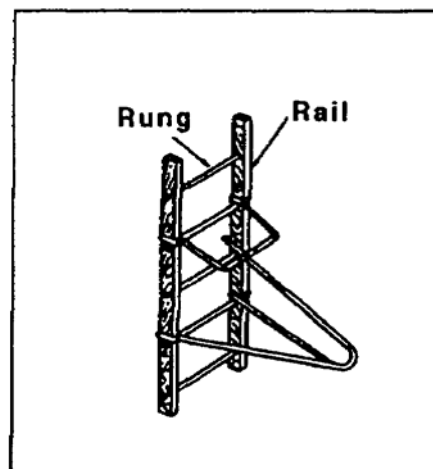
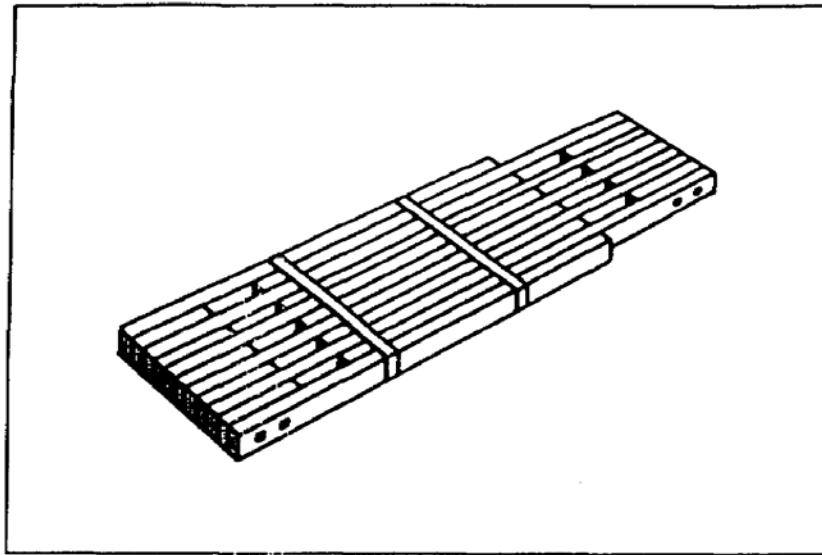

Figure 4-8. Steel ladder jack
Figure 4-9. Extension planking
(5) Using extension planking and ladder jacks. Two ladders may be adapted to hold a scaffold board or extension planking by using one steel ladder jack (Figure 4-8) for each ladder. Mount the jack on the front or back side of the ladder. By placing the ladder jacks between the ladder and the building being painted, you can work closer to the wall. Extension planking (Figure 4-9, page 4-6) is made of well-seasoned material that is straight-grained and free of any knots or defects. Extension planking is available in various sizes and is constructed so that its length is adjustable. As shown in Table 4-1, page 4-6, the size of the lumber used for planking depends on the scaffold span. A scaffold board made of lumber that is straight-grained and free of knots or any other defects may be used in place of an extension planking.